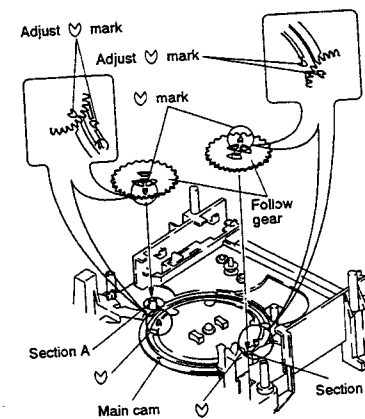

Fig. 2-4
- (2) As shown in Fig. 2-4, after adjusting ♡ marks (2 points) on the main cam to the same marks on the two follow gears, insert them into the section A and B respectively.